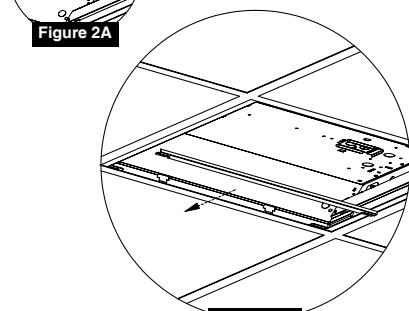

Figure 3
**3.** If you are not pleased with the gap between the fixture and T-grid, you may install side brackets between the fixture housing and T-grid, there are two tabs to allow for placing the side brackets into the slot of end brackets. (Fig.3)